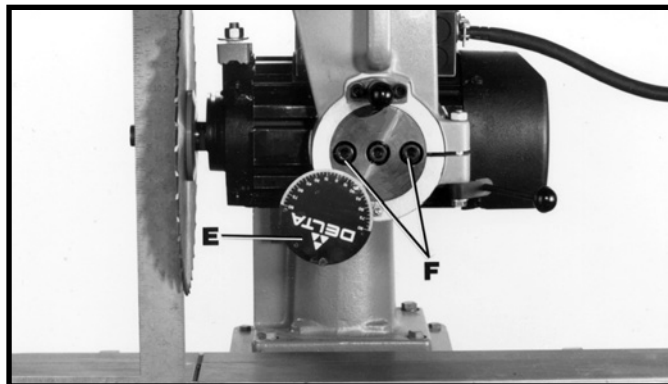

Fig. 37
5. If the above adjustment is not sufficient, remove scale (E) Fig. 37, and loosen the two socket head screws (F) located on each side of the center pivot screw. Rotate motor for approximate adjustment and retighten the two socket head screws (F).
6. Replace scale plate (E) Fig. 37, and repeat **STEPS 3** and **4** for final adjustment.